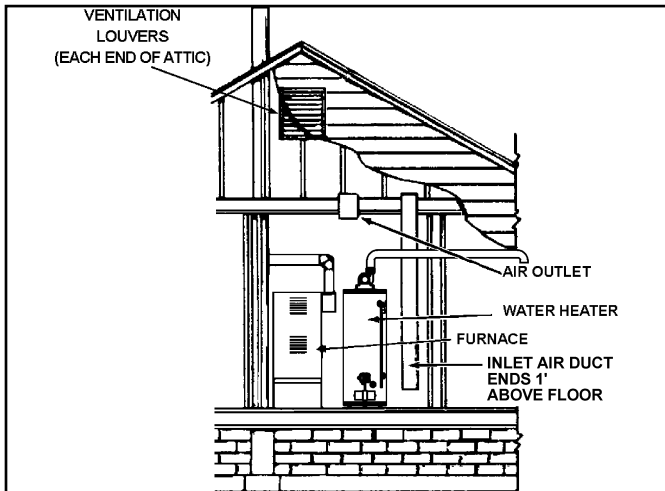

Figure 19.
2. When communicating with the outdoors through vertical ducts, each opening shall have a minimum free area of 1 square inch per 4,000 Btu/hr of total input rating of all equipment in the enclosure (see Figure 19).